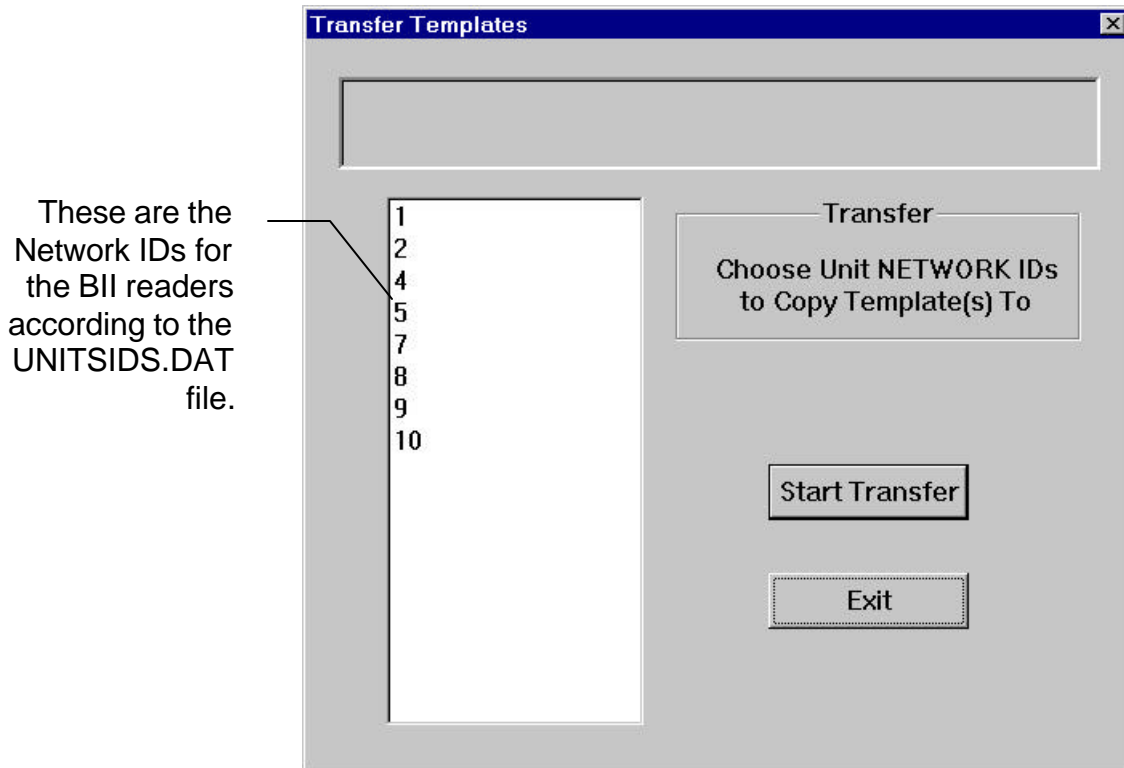

Figure 15: Transfer Templates from Unit to Unit
- 3 When the screen in Figure 15 appears, highlight the IDs of the units to which you wish to transfer the templates.